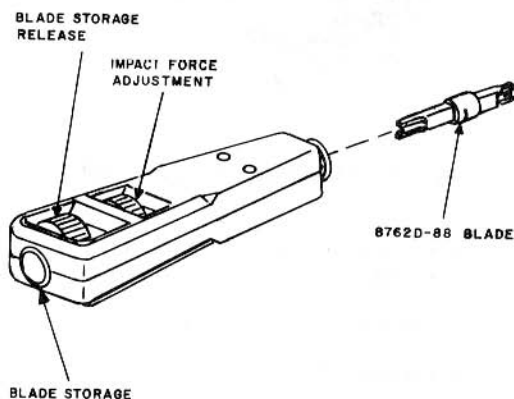

Fig. 14—D Impact Tool
2.20 The D impact tool (Fig. 14) consists of a handle with an adjustable impact force and a cavity for storing an extra blade. Double-ended blades are available which permit insertion/cutoff or insertion only of single conductors on 88-, 66-, or 630-type connecting blocks. Two knurled wheels are provided in the tool handle—one to adjust the impact force depending on wire gauge and type of connecting block; the other to expose the opening for the extra blade storage. The D impact tool is used to cut off and/or seat single conductors on the connecting blocks.